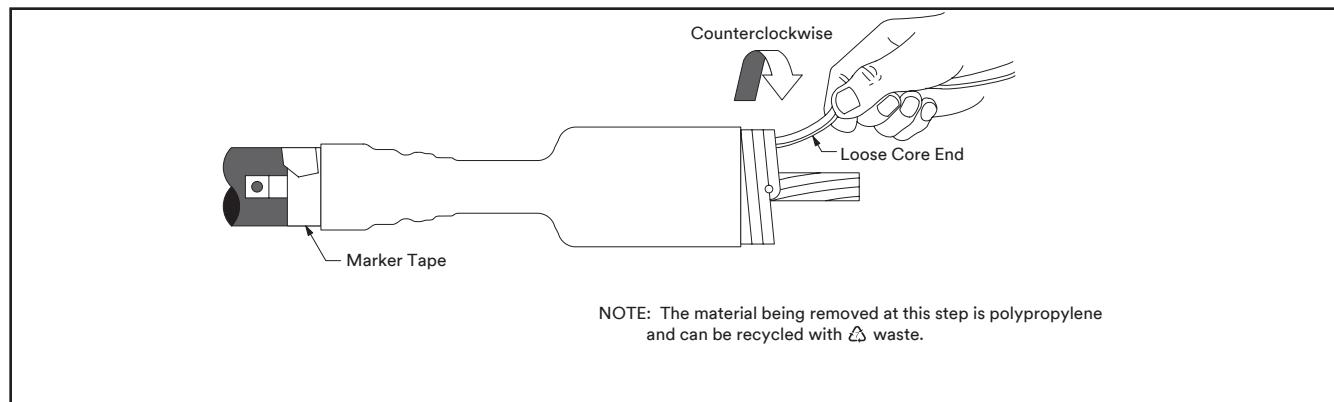

Figure 5
- 4.3 Slide termination onto cable (loose core end extending out toward cable lug end), aligning base with previously applied marker tape (*Figure 5*).
- 4.4 Remove the core. Pull while unwinding, counterclockwise, starting with the loose end (*Figure 5*). Make sure the termination body (not the core) is butted up to the edge of the vinyl tape marker previously applied (*Figure 5*).